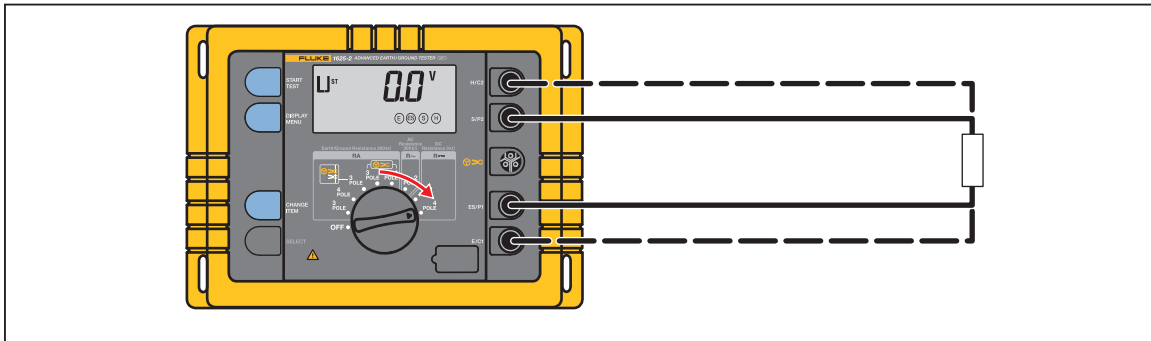

Figure 13. Resistance Measurement (R \rightarrow)
1. Connect instrument as shown in Figure 13.